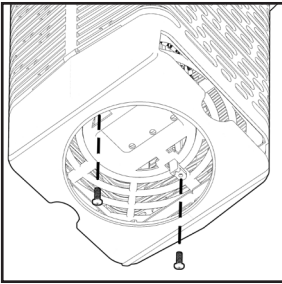

Fig. 1
3. Remove both screws securing grate panel. *(Fig. 1)*